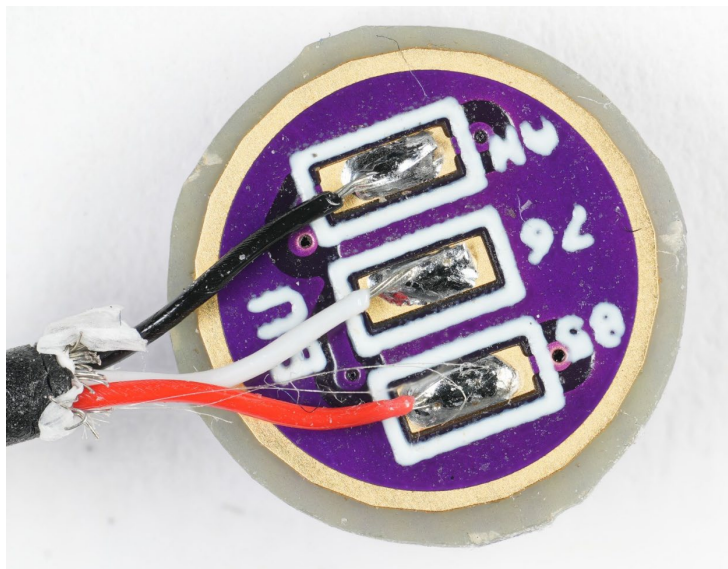

Figure 3.1: Wires soldered to PCB.
- Solder the NIRx optode wire to the back of the PCB. (see Figure 3.1)